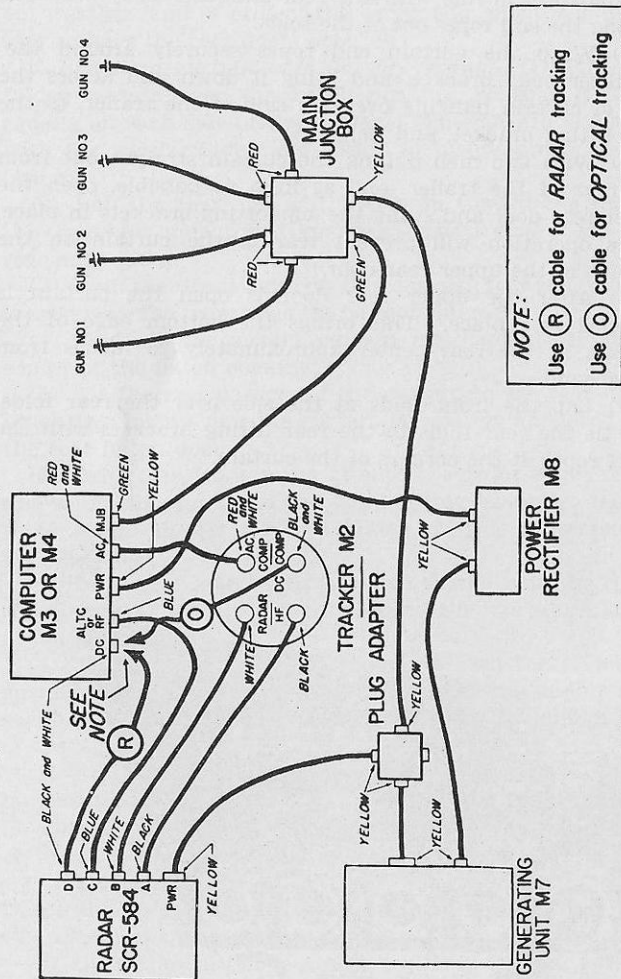

FIGURE 28.—Cable diagram for the SCR-584 used with director M9 and M10.
■ 32. CONNECTIONS WITH DIRECTOR M9 OR M10.—a. Figure 28 shows the cable connections for using the director M9 or M10. The A (black) receptacle on the radar connects to the HF (black) receptacle on the tracker of the director. The B (white) receptacle on the radar connects to the RAD (white) receptacle on the tracker of the director. The C (blue) receptacle on the radar connects to the RF (blue) receptacle on the computer of the director. The D (black-white) receptacle on the radar connects to the DC (black-white) receptacle on the computer of the director. A fifth cable is run out between the tracker and the computer as indicated in the diagram. This cable is plugged into the DC COMP (black-white) receptacle at the tracker and the other end is left loose beside the DC (black-white) receptacle at the computer. With this cabling arrangement the director may be used easily for either optical or radar tracking. For radar tracking, the cable from the radar is used; for optical tracking, the cable from the tracker is used. When using either